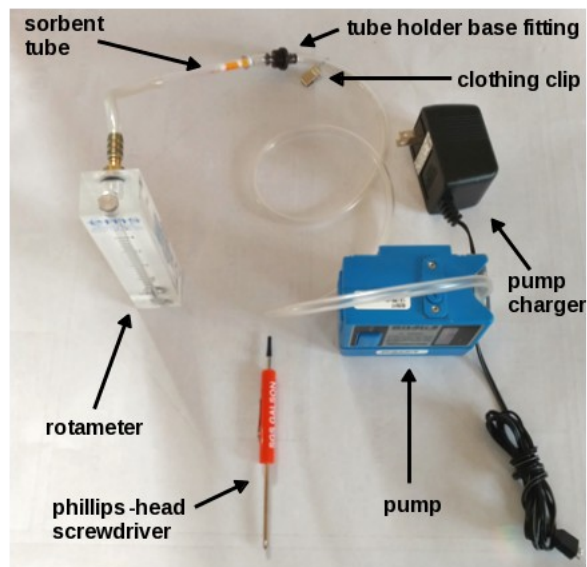

Figure T1-6. Sampling train configuration for field calibration checks.
(1) **Assemble the sampling train as shown in Figure T1-6.** The long 5/16" OD clear tubing going through the clothing clip(s) connects the pump to the black tube holder base fitting. A short 3/8" OD clear tube connects the black tube holder base fitting to the opened sorbent tube (See Notes T1-3 and T1-4). The 3/8" OD clear tubing coming out of the rotameter, goes to the other end of the opened sorbent tube (See Notes T1-6 and T1-7).